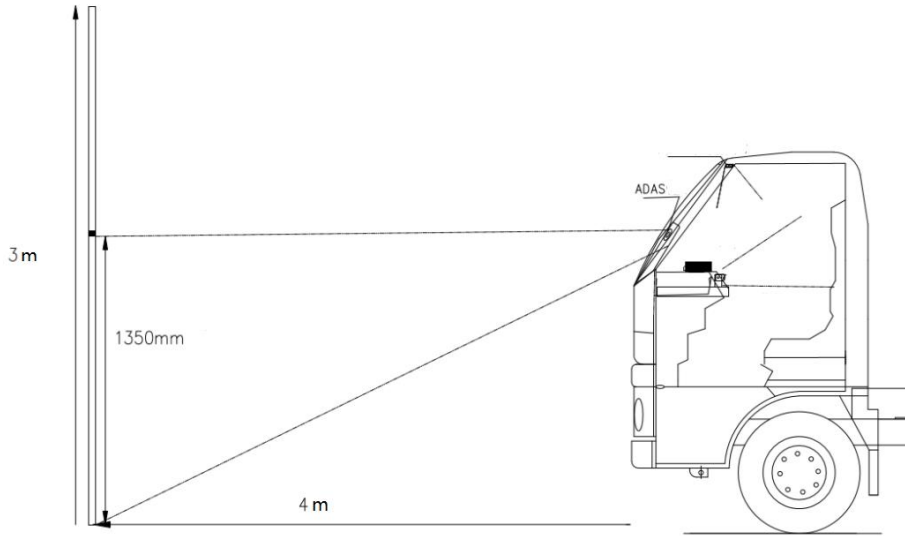
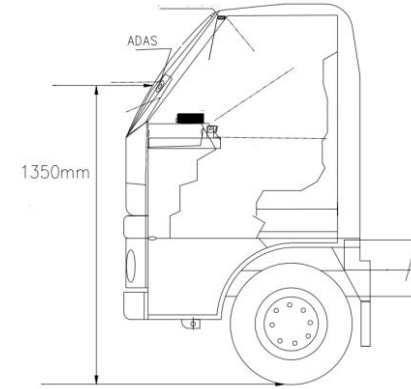
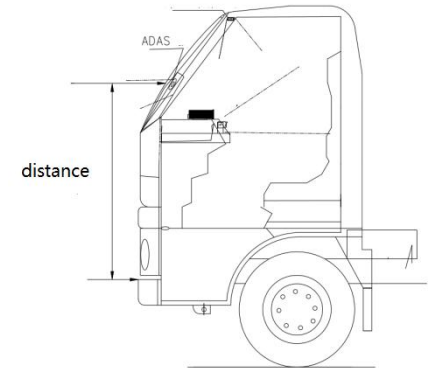
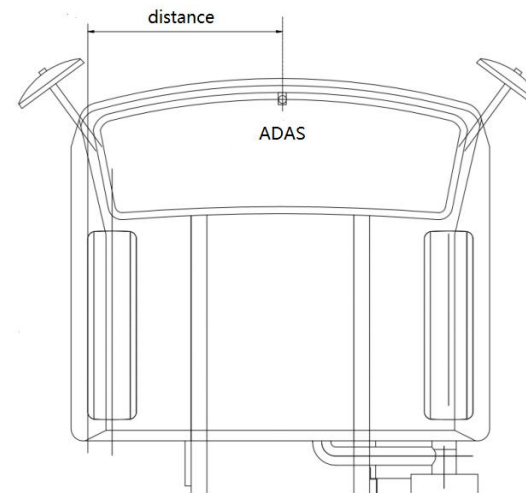

Figure 1
Figure 2
Figure 3
Figure 4
1. Determine the installation position of the camera, and clean the dirt and dust on the glass surface before installation. (Figure 1)
2. Adjust the height of the benchmark to be consistent with the height of the ADAS lens. (Figure 1)
6. According to Figure 1, Figure 2, Figure 3, Figure 4 and Figure 5 Measure the corresponding parameters.
2. Dismantle the A-pillar or B-pillar, enter the video extension cable from the A-pillar or B-pillar into the instrument panel, and fix the wiring harness. (Figure 2)
3. The video extension cable is fixed on the car body with a cable tie, and threaded from the A-pillar or the B-pillar (depending on the actual loading situation) to the AV3 port on the host. (Figure 3)